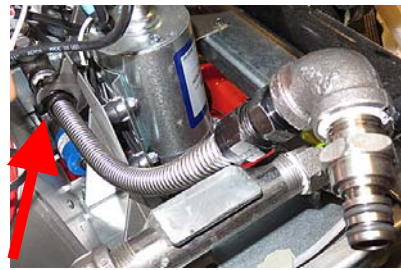

Figure 30
29. Attach inlet assembly flexline (1083391) to the reducing tee, behind the top off pump (see Figure 30) and tighten.